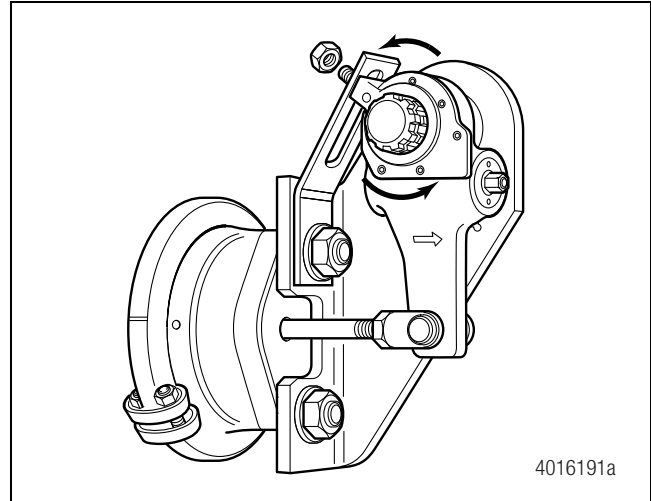
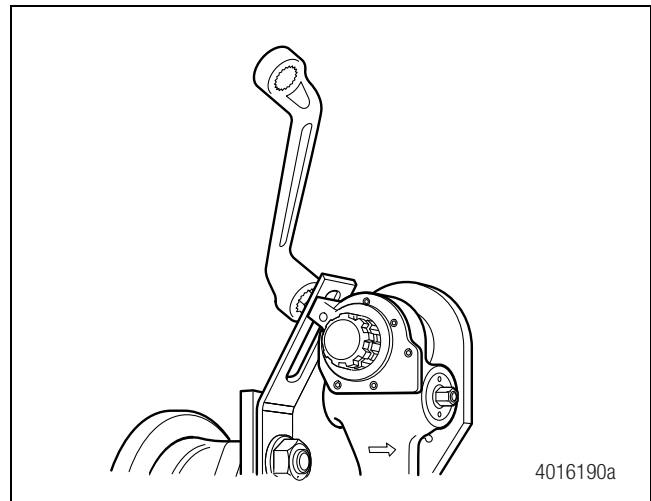

Figure 5
Figure 6
9. Insert the flat end of the anchor stud through the S-ASA control arm bushing. Rotate the control arm, in either direction, so that the anchor stud aligns with the slot on the strap bracket. Figure 5. Push the threaded end of the stud into the strap bracket slot. The shoulder adjacent to the threaded end of the stud must engage the slot correctly to prevent the stud from rotating. Figure 6.